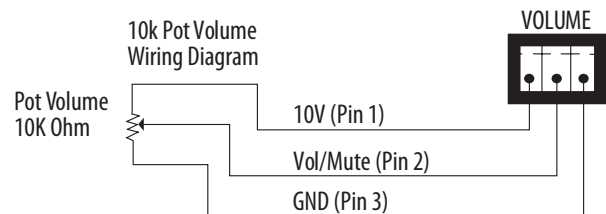

Figure 1
- 1 Follow the 10k Pot Volume Wiring Diagram to connect the external volume control to the amp (Figure 1).